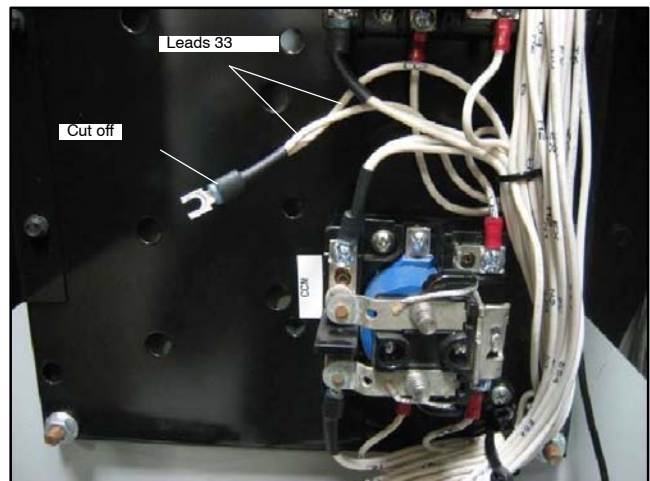

Figure 40 Cut Off Terminal
30. Separate the leads labeled 33 from the harness. Cut the forked terminal from the end of the longer lead 33. See Figure 40. Discard the short jumper leads that were connected between the relays.